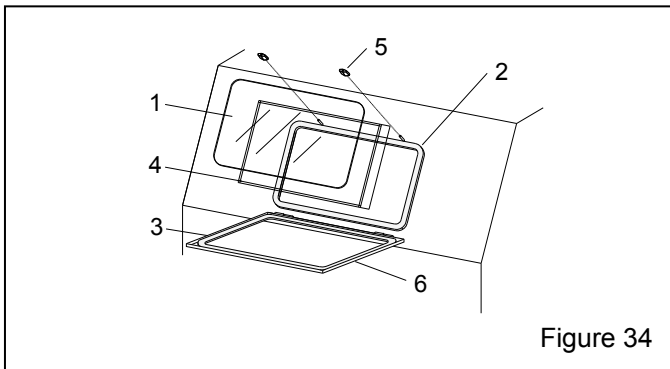

Figure 34
9.5 View Window Assembly, Figure 34